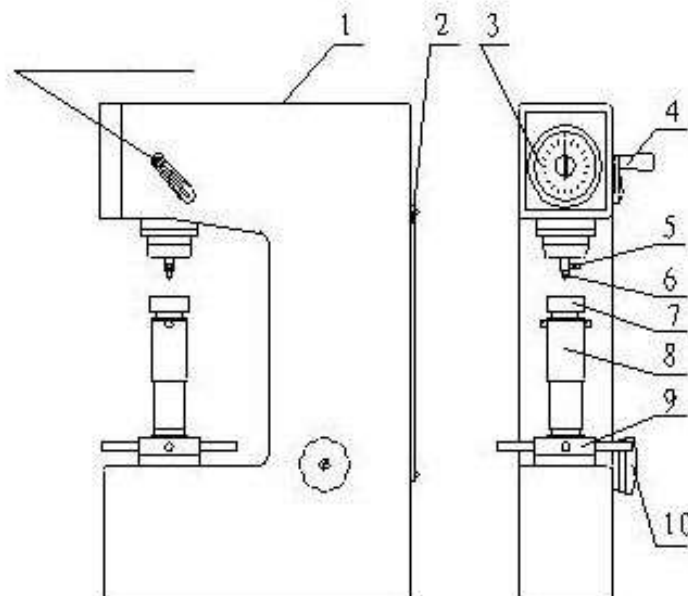
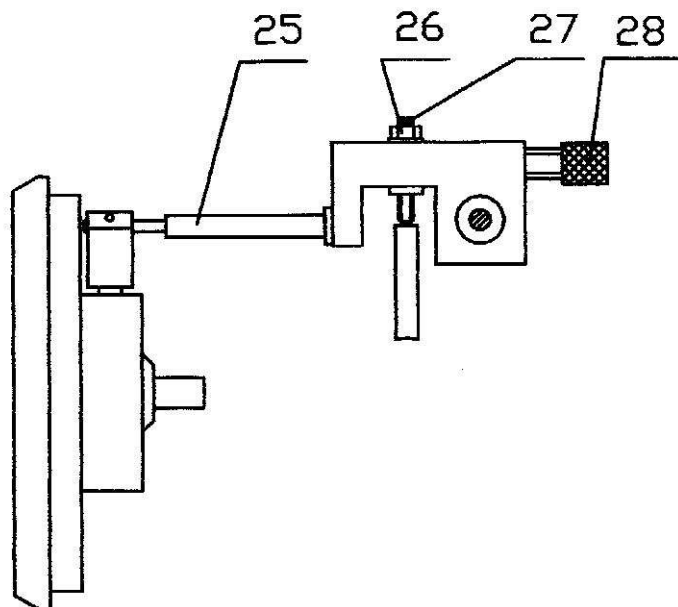

Figure 2
Figure 5
4.3 After the hardness tester is properly placed (see figure 2), remove the top cover (1) and the rear cover (2). Untie the fastening white gauze tape on the extension rod (8, figure 5), then promptly replace the top cover to prevent dust from coming into the tester. Open the rear cover (2) and remove the white gauze tape on moveable parts. Wipe off the anti-rust oil on the lifting screw and apply some thin lubricating oil instead.
- 5.3 Adjustment of the hardness value display (figure 5)
- The accuracy of the tester is calibrated at factory. If any error is caused by improper handling during transportation, operator can make adequate adjustment but in prior to do that he shall thoroughly understand the structure and working principle of the tester apparatus. The procedure is as following: Remove the top cover. If displayed value is lower than the actual hardness of standard block, loosen M4 nut (26) and slightly turn in screw (28) clockwise, then tighten the nut and make the test again until the displayed value falls in the specified tolerance (table 1). If displayed value is higher, turn the screw counterclockwise.